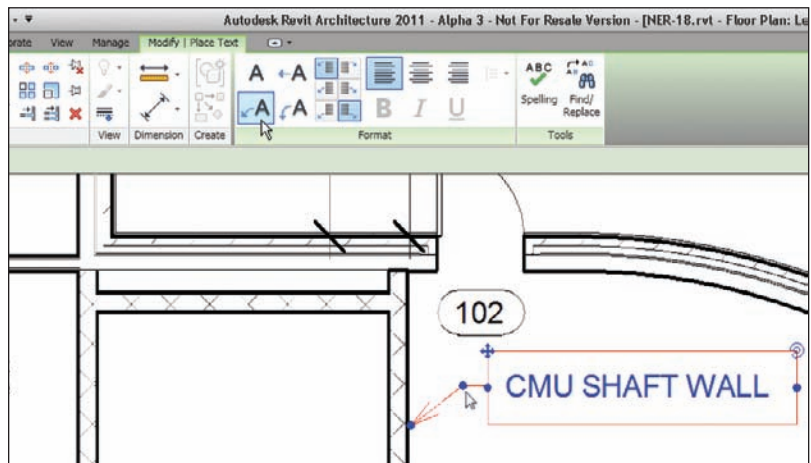

FIGURE 5.49 Adding and stretching a leader
13. Click the Add Left Side Straight Leader button, as shown in Figure 5.49. It adds a leader to the left end of the text.
14. By clicking the grips and moving the text around, configure the text and the leader to resemble Figure 5.49.